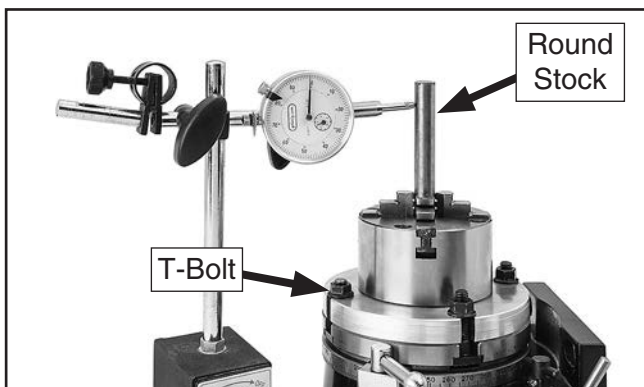

Figure 14. Magnetic base dial indicator placed next to rotary table.
2. Insert piece of straight round stock into chuck jaws to act as indexing point (see **Figure 14**).
Note: Indicator needle should be perpendicular to rotary table and touching outside edge of round stock in chuck jaws (see **Figure 14**).